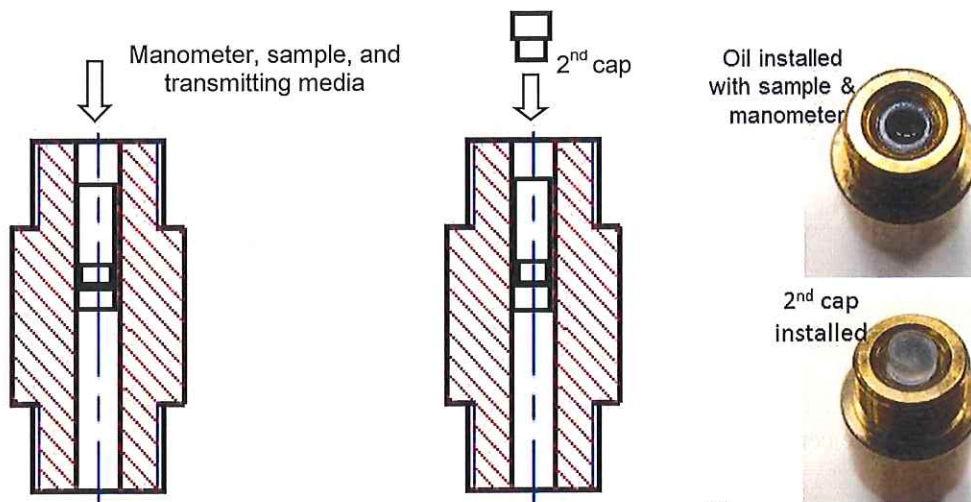

Fig 4 Inserting sample and inserting 2nd teflon cap
- 4) Insert the sample, manometer, and pressure transmitting media into the open end of the teflon sample tube. If using the included Sn or Pb wire for the manometer, about 1mm length is sufficient. Leave enough space at the top of the teflon sample tube to allow the second teflon cap to be inserted (fig 4).
- 5) Seal the open end of the teflon sample tube with a teflon cap (fig 4).